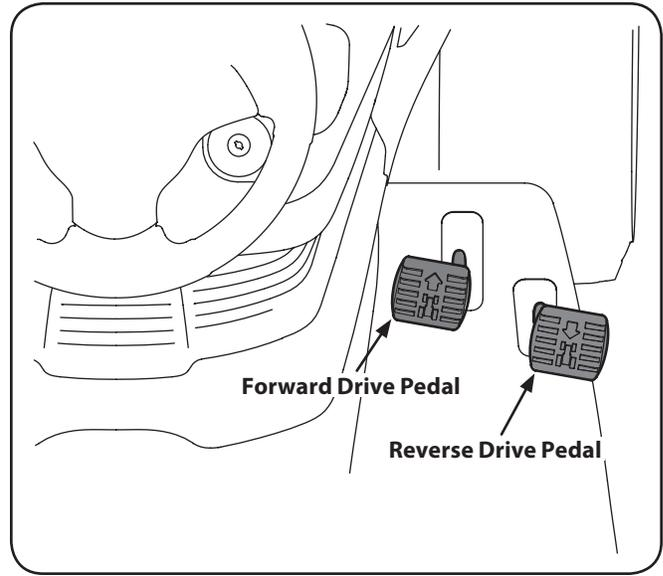

Figure 5-2
2. To travel FORWARD, slowly press the forward drive pedal  forward until the desired speed is achieved. See Figure 5-2.
3. To travel in REVERSE, check that the area behind is clear then slowly depress the reverse drive pedal  until the desired speed is achieved. See Figure 5-2.